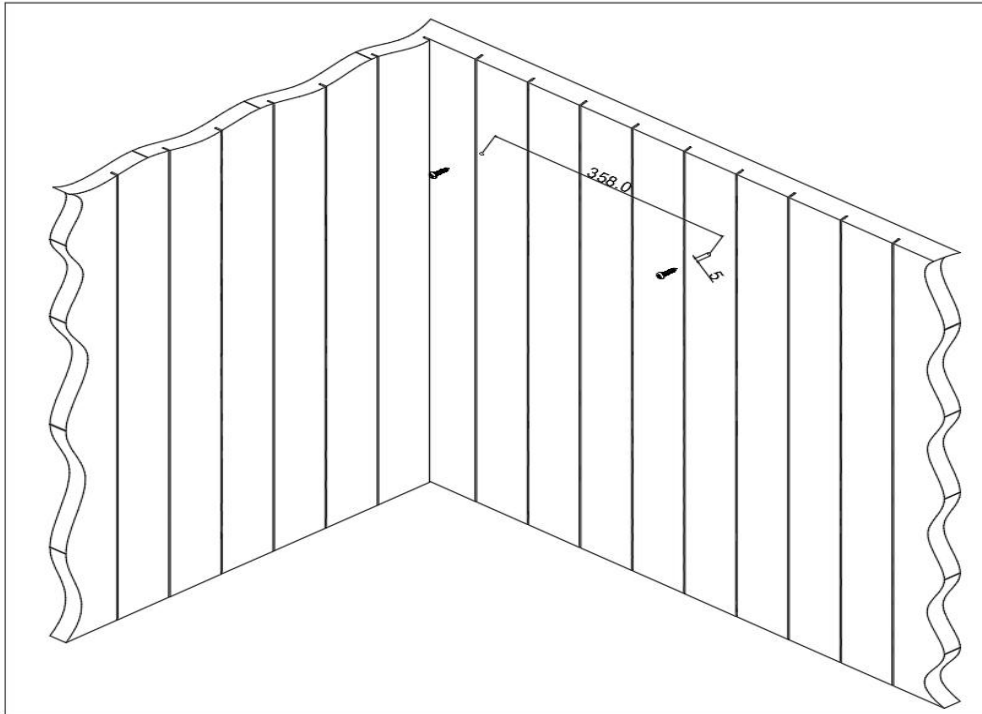

Figure 2A
- Screw the sauna heater to the wall. (see figure 2A&2B)